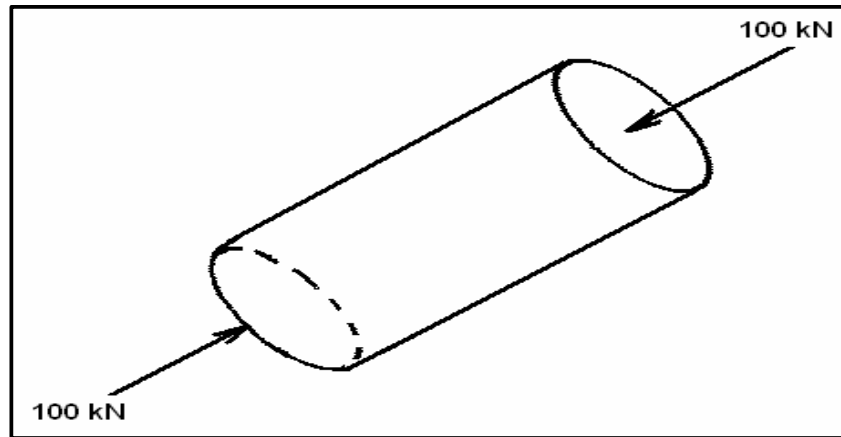

FIGURE 8.3
- 8.3 Sakhi was instructed to use a mild steel pin to remove a bush from the yoke using a hydraulic press. The drawing of the pin, shown in FIGURE 8.3, indicates a load of 100 kN that causes a stress of 204 MPa.